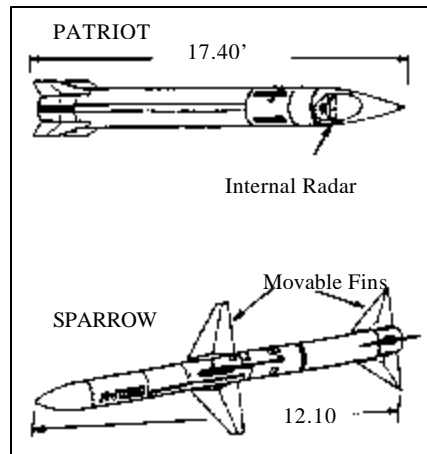

Figure 51. PATRIOT and Sparrow guided missiles.
- (2) Larger missiles, such as the phased-array tracking radar intercept on target (PATRIOT and the Sparrow) are guided by radar to their target, see Figure 51. The radar may be internal to the missile, like the PATRIOT, or external, like the Sparrow, which uses the airplane's radar system. Guided missiles are usually stabilized in flight by fins that are controlled by internal